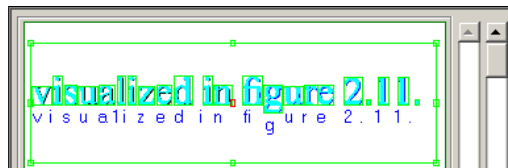

Figure 2.12: Result of reading after the ligature 'fi' has been added to the OCR font .
- ⑤ During the input of the symbol names, it might be necessary to ignore some of the samples, e.g., because you do not need them to be part of the trainfile or in order to skip segmentation errors. To ignore the currently active sample, click on or type + .
- ⑥ To assign symbol names that are longer than one character, e.g., for ligatures, you can click on or type + . This will insert a pair of brackets between which you can enter the symbol name.
- ⑦ There are two possibilities to customize the visualization during the teaching process. You can highlight the currently active symbol and you can display the text you have given as the symbols name directly above its image position in AVTOCRView.
- ⑧ Finally, you must again train the OCR font by pressing . Now, the ligature is read correctly (see figure 2.12).